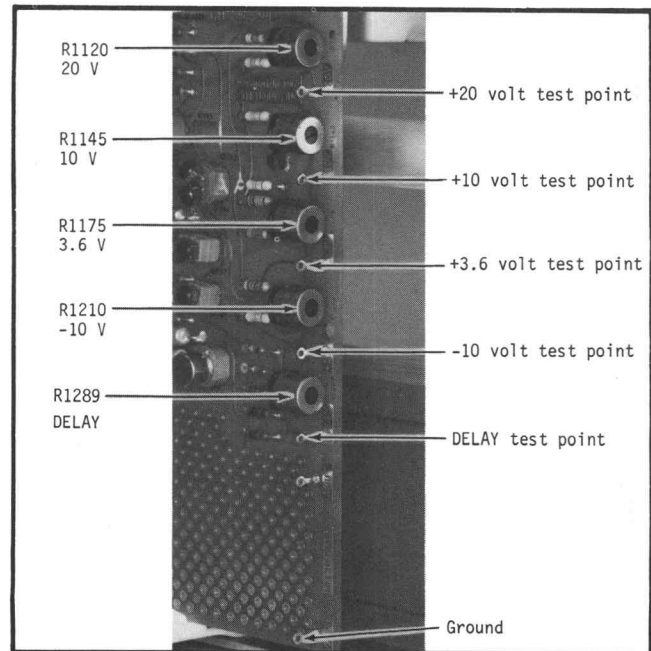

Fig. 4-2. Regulator circuit card showing voltage test points and adjustments. (DELAY is not used in the Type R250.)
- b. Connect the precision DC voltmeter from the 20 V test point to the GND test point on the regulator circuit card (see Fig. 4-2).
2. Adjust +10-Volt Regulator ①
- a. Connect the precision DC voltmeter from the 10 V test point to the GND test point (see Fig. 4-2).
3. Adjust -10-Volt Regulator ①
- a. Connect the precision DC voltmeter from the -10 V test point to the GND test point (see Fig. 4-2).
4. Adjust +3.6-Volt Regulator ①
- a. Connect the precision DC voltmeter from the 3.6 V test point to the GND test point (see Fig. 4-2).
5. Adjust +3.6-Volt Current Limiter ①
- b. Connect the 1X probe from the vertical input of the test oscilloscope to the 20 V test point on the Type R250 (see Fig. 4-2). Connect the probe ground lead to the GND test point on the regulator card.